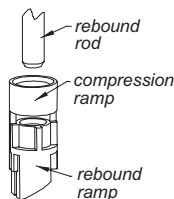

Figure 9
5. Nest the rebound ramp inside the compression ramp and insert the blunt end of the rebound rod into the hole. If it does not stay attached, a slight amount of grease on the end of the rebound rod will help keep things together. (Figure 9)